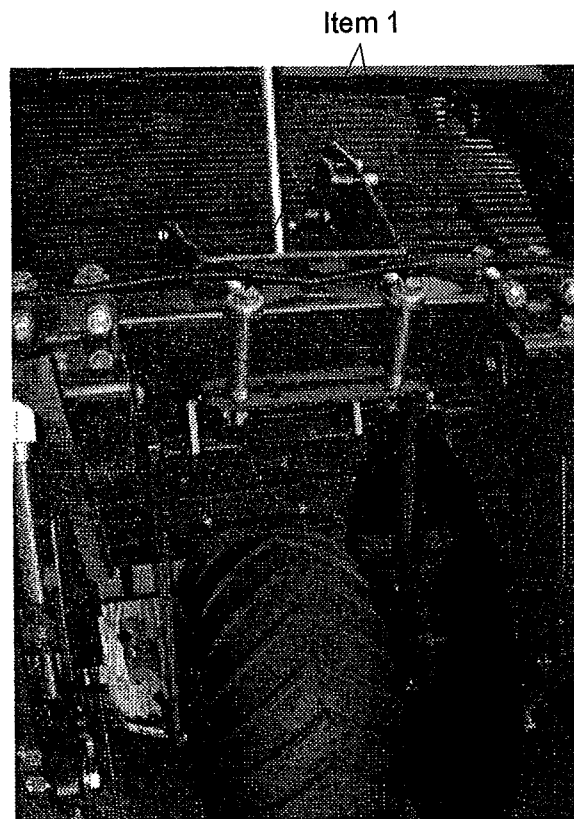

Fig 6.9
A depth wheel running on each ridge controls the share depth and these must be positioned to suit the row widths being worked. Each depth wheel is mounted in a frame, which is clamped to the same cross beam, which carries the disc mountings (see fig 6.9). To adjust, slacken the mounting clamp bolts (fig 6.9 item 1) and slide the frame and depth wheel assembly until the wheel is centrally positioned over the ridge. Tighten the clamp bolts. Both depth wheels must be equally spaced from the centre line of the floating chassis.